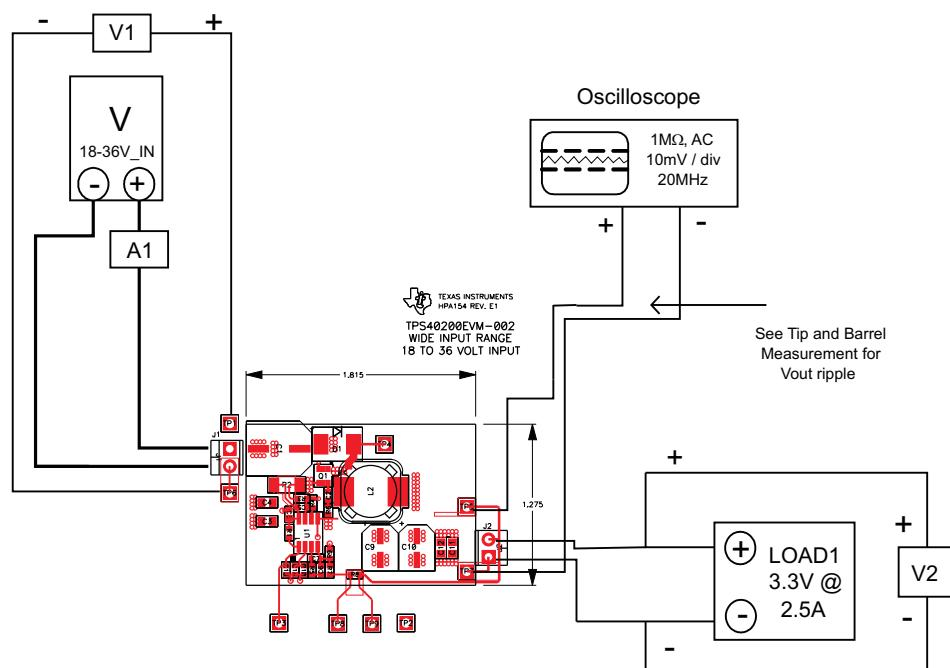

Figure 2. TPS40200EVM-002 Recommended Test Setup
A 60-MHz or faster oscilloscope can be used to measure the ripple voltage on V_{OUT} . The oscilloscope should be set for $1\text{-M}\Omega$ impedance, ac coupling, 1- $\mu\text{s}/\text{division}$ horizontal resolution, and 20-mV/division vertical resolution for measuring output ripple. TP5 and TP7 can be used to measure the output ripple voltage by placing the oscilloscope probe tip through TP5 and holding the ground barrel to TP7 as shown in Figure 2. For a hands-free approach, the loop in TP7 can be cut and opened to cradle the probe barrel. Using a leaded ground connection may induce additional noise due to the large ground loop area.
The recommended basic test setup to evaluate the TPS40200EVM-002 is shown in Figure 2. Note that although the return for J1 and J2 are the same, the connections should remain separate as shown in Figure 2.
2. Prior to connecting the dc-input source, V_{IN} , it is advisable to limit the source current from V_{IN} to a maximum of 5 A. Ensure that V_{IN} is initially set to 0 V and connected as shown in Figure 2.
3. Connect the ammeter A1 (0-A to 5-A range) between V_{IN} and J1 as shown in Figure 2.
4. Connect voltmeter V1 to TP1 and TP2 as shown in Figure 2.
6. Connect voltmeter, V2 across J2 pin 3 and J2 pin 2 as shown in Figure 2.